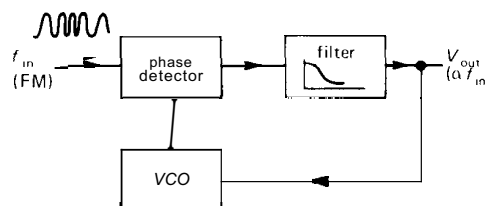

Figure 9.77. PLL FM discriminator.
In the simplest method, a PLL is locked to the incoming signal. The voltage setting the VCO frequency is proportional to the input frequency and is therefore the desired modulating signal (Fig. 9.77). In such a system you would choose the filter bandwidth wide enough to pass the modulating signal, i.e., the response time of the PLL must be short compared with the time scale of variations in the signal being recovered. As you will see in Chapter 13, the signal applied to the PLL does not have to be the actual transmitted waveform; it can be an "intermediate frequency" (IF) generated in the receiving system by the process of **mixing**. A high degree of linearity in the VCO is desirable in this method of FM detection, for low audio distortion.